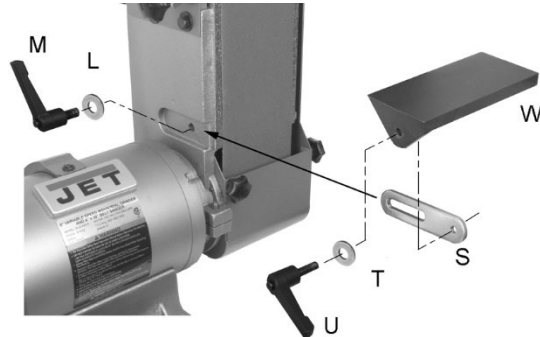
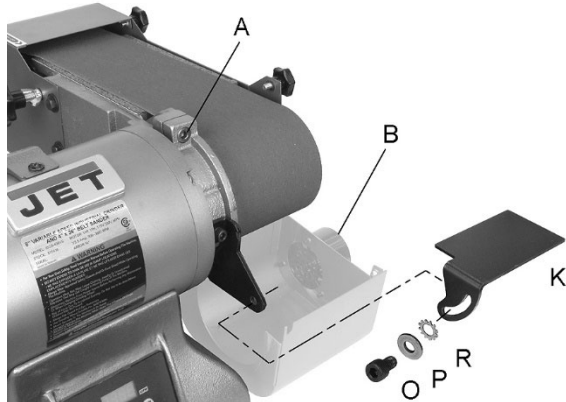

Figure 6-1: sanding belt table
Figure 6-3: Sanding tool rest
Install bracket plate, table and handles, as shown in Figure 6-1. (You may prefer sanding arm in horizontal position for this – see Figure 6-3.)
2. Loosen screw (A, Figure 6-3) with 6mm hex wrench and lower sanding arm to horizontal position.
Loosen screw (A, Figure 6-3) with 6mm hex wrench and lower sanding arm to horizontal position.
Install tool rest as shown in Figure 6-3, using a 6mm hex wrench.
Install dust port (B, Figure 6-3) over exhaust hole in sanding arm, with three screws.
Loosen screw (A, Figure 6-3) and manually move arm to vertical or horizontal position. Retighten screw.
CAUTION Make sure screw (A, Figure 6-3) is tight when using sanding arm. Failure to comply may result in vertical sanding arm falling back to horizontal position during operation, resulting in possible injury.